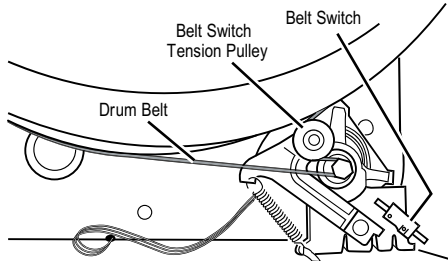

Figure 5. Slowly remove drum belt.
5. Check the belt switch and drive motor. Access the belt switch and drive motor by removing the front panel/drum assembly. See Removing the Front Panel/Drum Assembly. Slowly remove the drum belt from the spring-loaded belt switch tension pulley, gently letting the pulley down. See Figure 5.